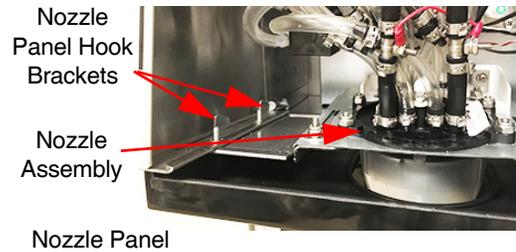

Figure 6
2. Remove the Nozzle Panel. See Figure 6.
3. Replace the nozzle panel. Refer to Figure 6.